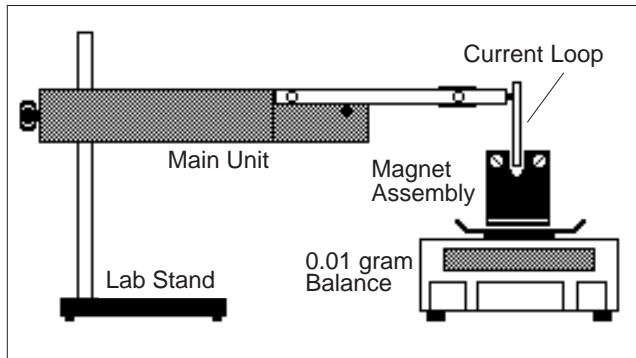

Figure 2.1 Equipment Setup
- ① Set up the apparatus as in Figure 2.1.
- ② Determine the length of the conductive foil on the Current Loop. Record this value under “Length” in Table 2.1.
- ① Set up the apparatus as shown in Figure 2.1. Use the shortest length current loop.